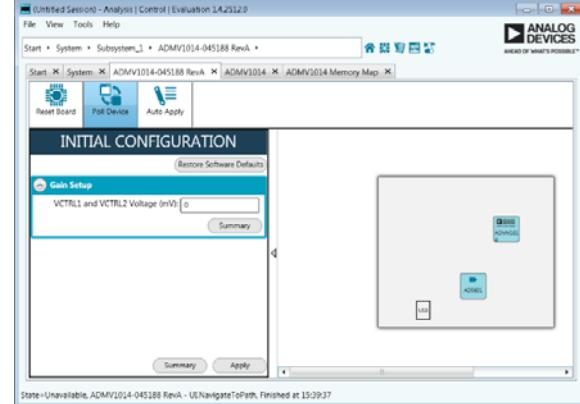
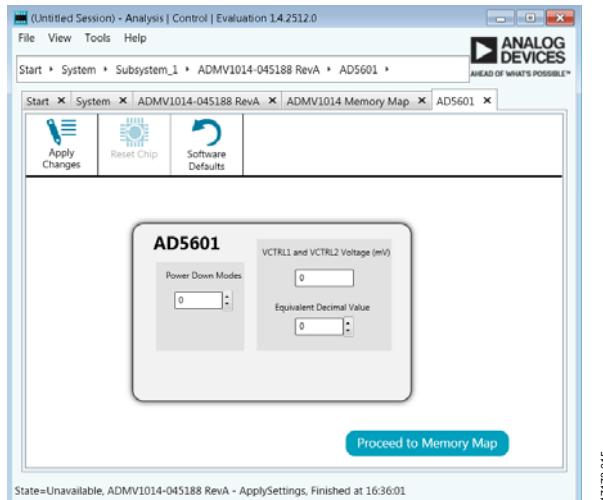

Figure 12. Initial Configuration for the Gain Setup and Board Plugin View
Figure 16. AD5601 nanoDAC User Interface
5. The **ADMV1014-045188 RevA** tab opens. On the left side of the screen, click **Initial Configuration** to open this menu. Go to **Gain Setup** to enter the VCTRL voltage. Note that 0 mV is the highest gain for the device (see Figure 12).
6. Click **Apply**, then click **Reset Board**, and then double-click **ADMV1014** (see the middle of the screen shown in Figure 12). For optimal performance, it is recommended to click **Reset Board** each time the USB is plugged in to the computer.
When using an external power supply for the VCTRL voltage, use the AD5601 nanoDAC plugin to change the voltage or to power down the *nanoDAC*. To open the *nanoDAC* plugin, click the AD5601 tab at the top of the ACE software window or double-click AD5601 within the ADMV1014-045188, Rev. A tab (see Figure 12). Figure 16 shows the AD5601 nanoDAC user interface. The user interface contains the **Power Down Modes** section and the VCTRL voltage section.
After making any changes to the voltage or the power-down mode, click **Apply Changes** shown in the top left of the ACE software window (see Figure 16). When **Auto Apply** is selected in the ADMV1014-045188, Rev. A tab, these changes take place automatically and there is no need to click **Apply Changes**.